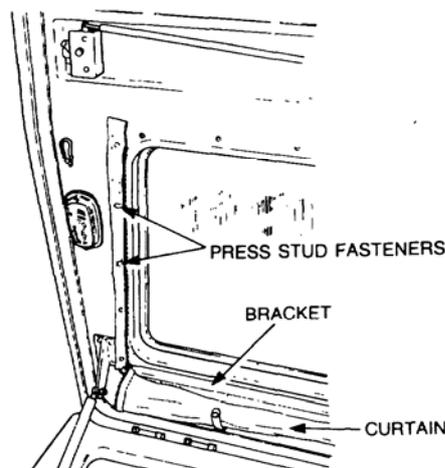

Figure 39 Rear Door Curtain Removal
- b. Release the press stud fasteners, then remove the curtain from the aluminium extrusion (refer Figure 39).